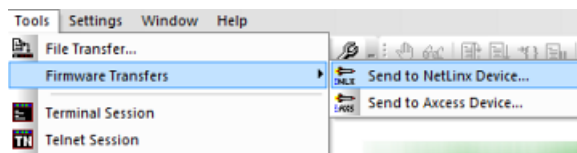

FIG. 35 NetLinx Studio - Tools > Firmware Transfers > Send to NetLinx Device
4. In NetLinx Studio, select **Tools > Firmware Transfers > Send to NetLinx Device** (FIG. 35):